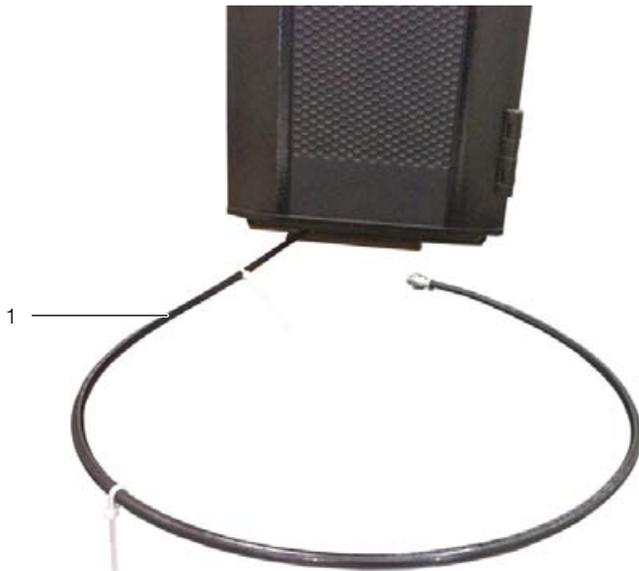

Fig. 25: Condensate discharge
Any condensate which may develop is collected in the condensate collecting tray (fig. 25, item 2) beneath the heat exchanger.
The LCP DX is additionally equipped with a condensate discharge (fig. 25) via which the condensate is pressurelessly routed out of the LCP DX.